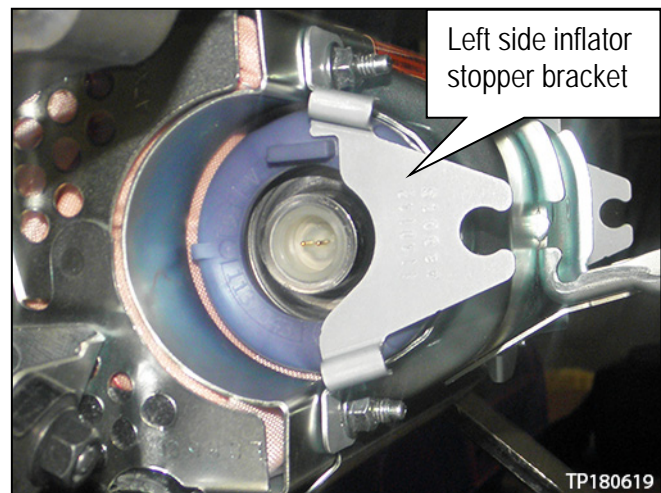

Figure 32
42. Install the left side inflator stopper bracket and 2 inflator securing nuts finger tight (see Figure 32).